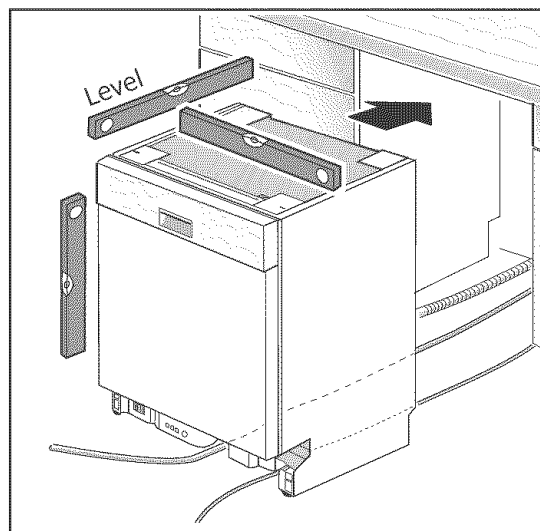

Figure 11
- Straighten the hot water supply line and the electrical cable (see Figure 11).